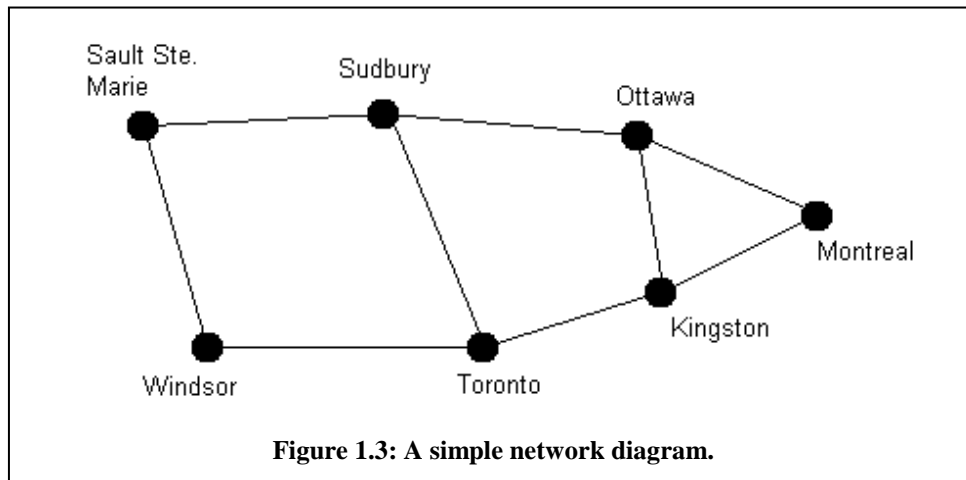

Figure 1.3: A simple network diagram.
Networks are natural models of many real situations. A network model consists of nodes and connecting lines called arcs, as sketched in Figure 1.3. The nodes in Figure 1.3 represent cities in the eastern part of Canada, and the lines between the nodes may variously represent roads or railways or telephone lines, depending on the application.
Examples of some questions that might be posed, given the network model in Figure 1.3:
- Label each of the arcs with the distance between the cities that it connects. What is the shortest route between Sault Ste. Marie and Montreal? This may be a simple problem to solve in Figure 1.3, but now imagine solving it on a network diagram of a million-transistor layout: brute force enumeration of all of the possible routes simply won't work! This is the classic *shortest route problem*. If the arcs are labeled with travel times, then it is the fastest-route problem.